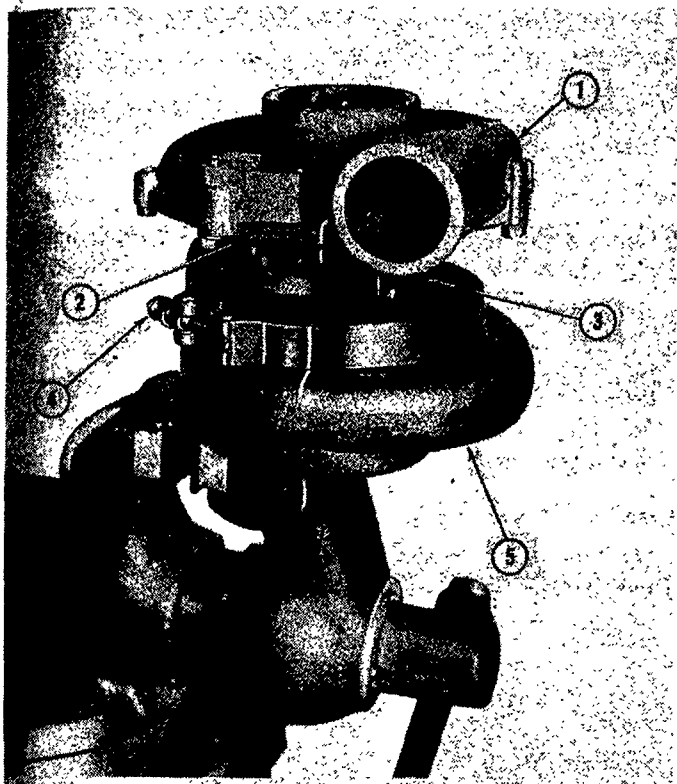

Figure 4
- Mark the relative positions of the compressor cover, the bearing housing, and the turbine housing, Figure 4, before disassembling the turbocharger to aid in reassembling the unit.